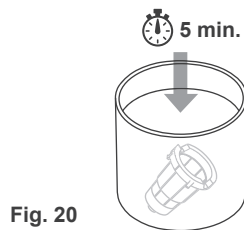

Fig. 20
2. Immerse the Red Cup Holder in to hot water for five (5) minutes (Fig. 20), and rinse with warm water.